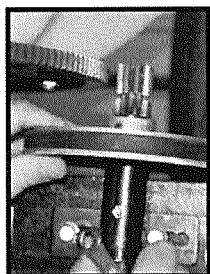
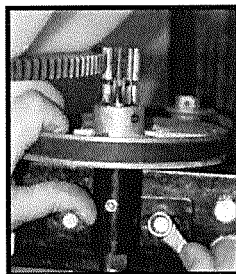

Fig.24: Loosen bolts on jackshaft adjustment plate to shift drive assembly.
Fig.25: Centre mixing drum gear onto drive gear and tighten jackshaft plate to set adjustment.
- c. Loosen bolts on adjustment plate to shift jackshaft towards mixer drum. (Fig.24). Set jack shaft such that the drum gear is centered onto drive gear, and that their teeth are set flush and straight to each other. (Fig.25) Tighten bolts on adjustment plate to set placement.